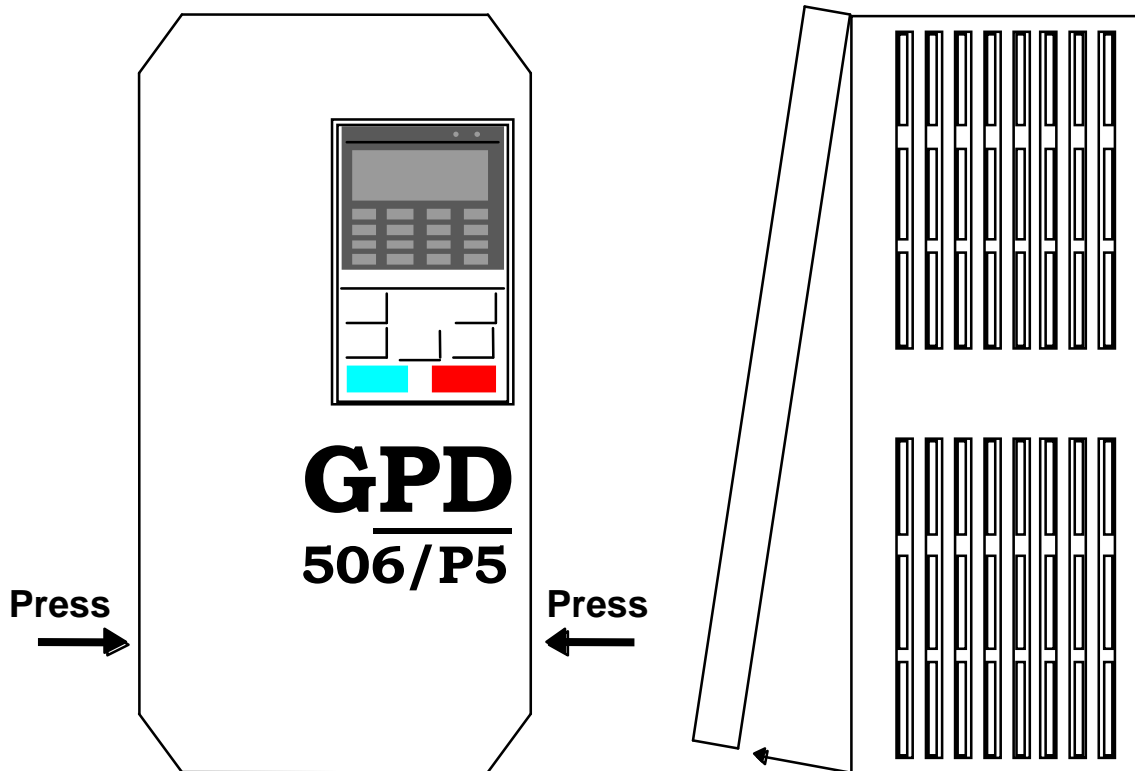

Figure 3. Cover Removal
Step 2. Remove the drive cover, applying pressure to the locking tabs on either side of the cover as illustrated in **Figure 3**. With the locking tabs disengaged, pivot the cover out from the bottom. Continue pivoting it until the top hinge disengages.